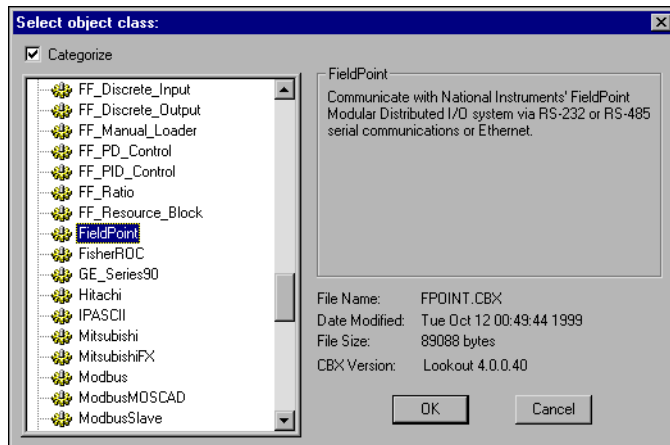

Figure 15. Creating a FieldPoint Driver Object in Lookout
2. Select **FieldPoint** from the **Drivers** folder in the dialog box that appears, as shown in Figure 15.